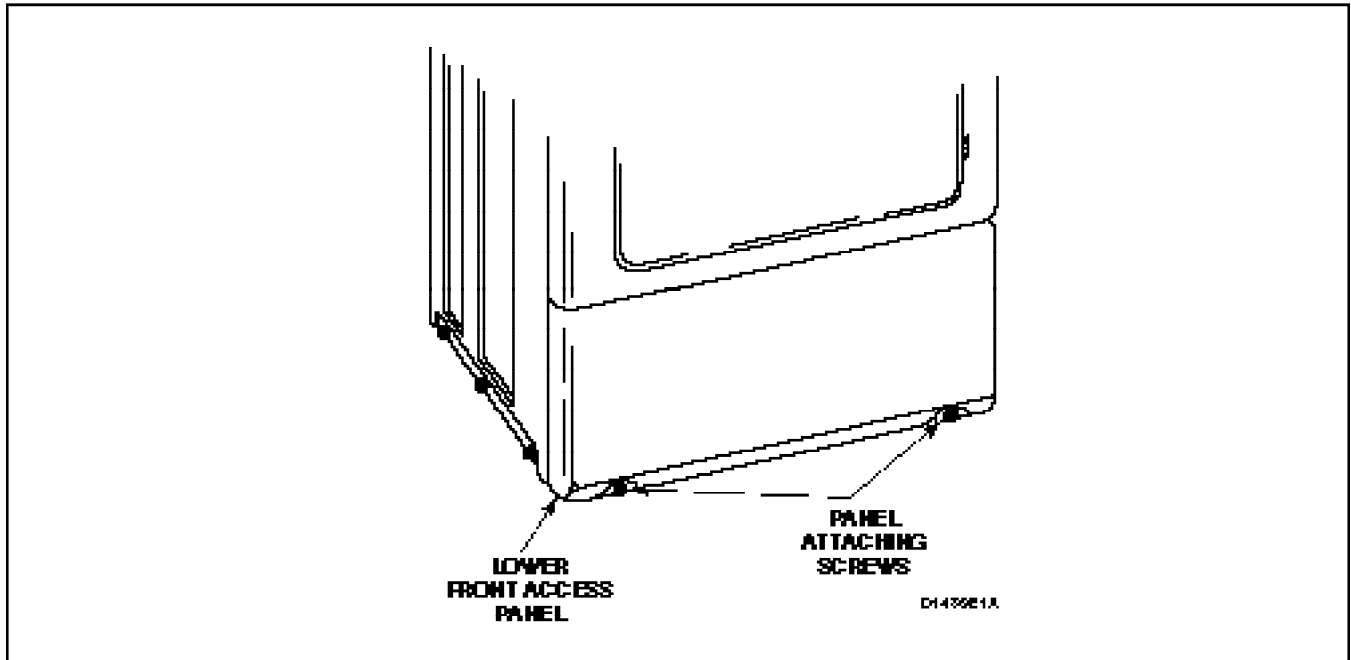

Figure 51
- While supporting the lower access panel, remove two screws from bottom edge of lower access panel, *Figure 51*.
- Remove valve wire harness disconnect block from the holding and booster coil, *Figure 51*.